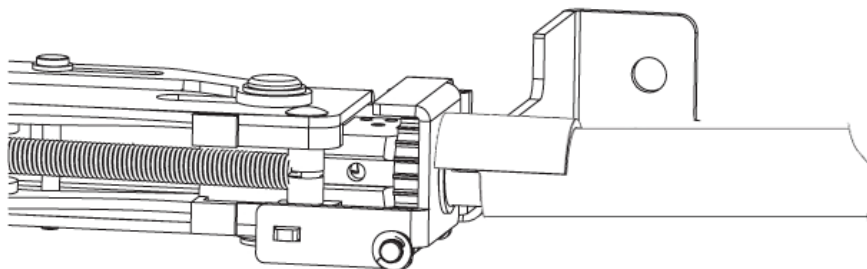

Figure 41
- To align the hex of rod with the hex of the LBC gear, fit the rod guide tab into the LBC gear slot. Once aligned, push the rod assembly in until fully seated. (Figure 41)